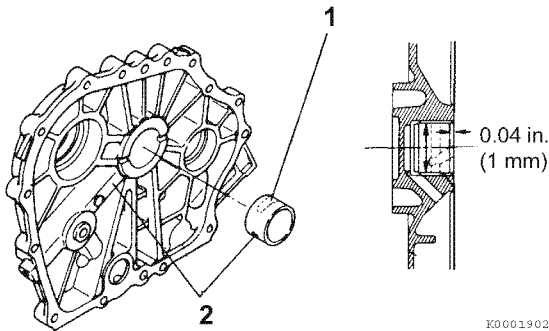

Figure 6-60
Inspect the main bearing (1, **Figure 6-60**) for discoloration, separation or other damage.
1. Measure the inside diameter of the main bearing insert (1, **Figure 6-60**) in the crankcase cover. See *Crankshaft* on page 6-7 for the service limit. Record the measurements.
- 2- When installing the new bearing insert, make sure the oil groove (1, **Figure 6-60**) is facing up and that the oil hole is facing the oil port (2, **Figure 6-60**). Install to a depth of 0.04 in. (1 mm) from the thrust surface (**Figure 6-60**).